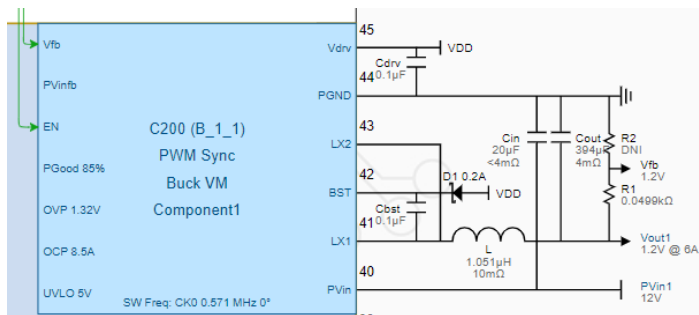
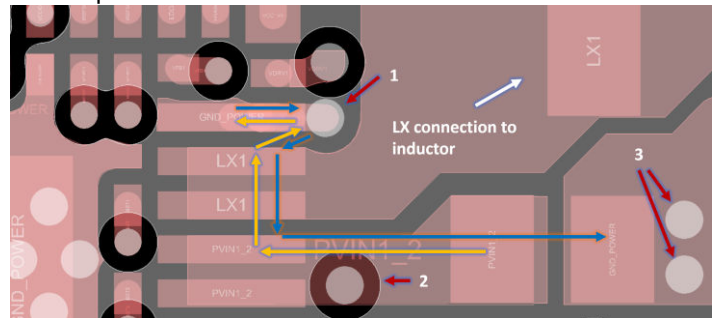

Figure 3: WebAmP schematic of C200
Figure 7: Same layout as Figure 5 but without vias-in-pad
Note that current does not actually flow in this loop at any given time (except during a very short period when the high-side turn-on edge charges the low-side MOSFET COSS and drives its body diode reverse recovery current). Instead, all the current branches in this loop have large di/dt. They have fast current edges during the switching transitions, and these branches’ *di/dt* arrow directions (not absolute current directions) form a complete loop. If this loop area is large, it will radiate di/dt noise, and form a large stray inductance in series with the bypass capacitor. This inductance will cause ringing at the AmP half-bridge – i.e. across the PVin and PGND terminals as seen in Figure 3. If severe, this ringing can cause unpredictable behavior.
The Source pin of the low-side MOSFET, labeled as “PGND” in Figure 3, does not have an internal connection to ground. It requires a low inductance connection to the ground plane. Two vias-in-pad are recommended. Via-in-pads with 6 mil or 0.15 mm drill diameters will work. (Figure 4). If vias-in-pad are not preferred, refer to Figure 7.
Figure 7 shows an example layout for a PCB design without vias-in-pad.
- High side: connections are to the BST2/3/6/7 pin (BST pin in Figure 3) to LX
- Low side: connections are to the BST1/4/5/8 pin (Vdrv pin in Figure 3) to the ground plane
The voltage feedback sense connection from the output VOUT to the C200 feedback input (bottom of R1 in Figure 3) must be at the output capacitor closest to the load. Connecting it closer to the inductor will degrade the load transient performance. In the schematic and PCB layout, the voltage feedback trace is the same net as VOUT; care must be taken in routing it to ensure there is only one connection point: to the last output capacitor. Figure 8 shows the use of a separate layer (blue trace) so the single point connection is at a via close to the output capacitor closest to the load. Do not simply connect it to the VOUT copper island at a random point.